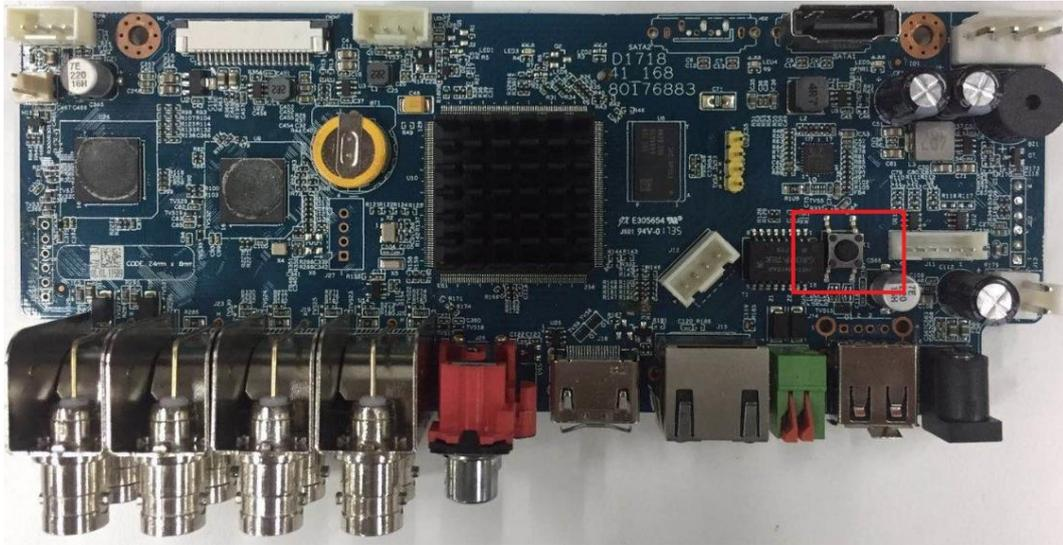

Figure 5-11
**Step 2** Find the reset button on the mainboard, and then press and hold the reset button for 5 seconds to 10 seconds. See Figure5-11 for the location of the reset button.